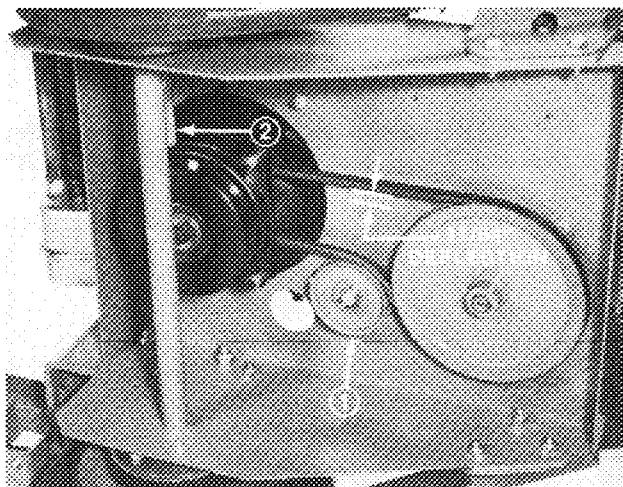

Figure 21
1. Loosen capscrew and flange nut securing idler pulley to frame (Fig. 21). Slide pulley outward relieving belt tension.
2. Remove left front engine mounting bolt securing clutch retainer to frame (Fig. 21). Unhook retainer from clutch and remove retainer.
3. Disconnect in-line wire connector and remove belt from drive pulley and clutch (Fig. 21).
6. Position and secure idler pulley to frame so belt deflection is no more than 11/64" when 5-1/2 lb of force is applied to midspan of long leg of belt (Fig. 21).
1. To adjust clutch, tighten or loosen locknuts on flange studs (Fig. 21).